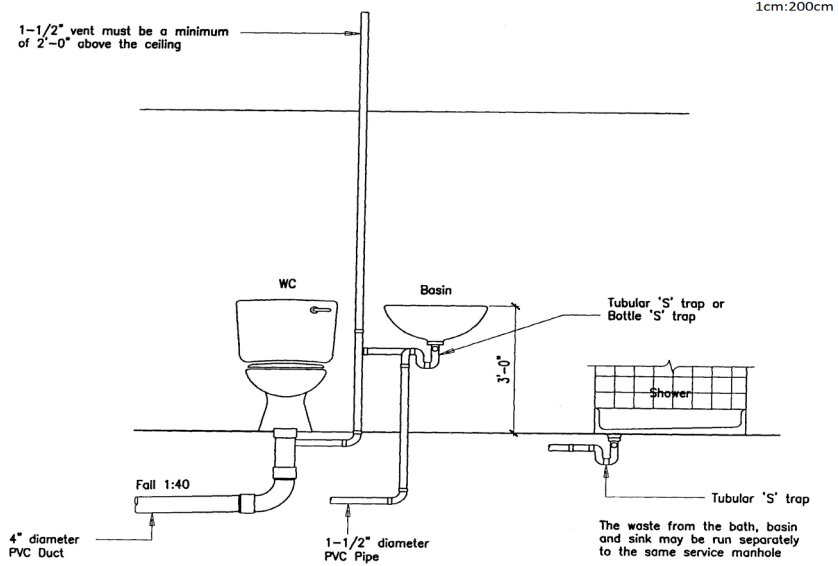

Figure B2(c) / Rajah B2(c)
- (c) The taking off list is the process of analyzing technical drawings and specifications to identify the elements. The list should include each building element from the smallest to the largest component. Based on Figure B2(c) below, illustrate a taking off list for the piping system.